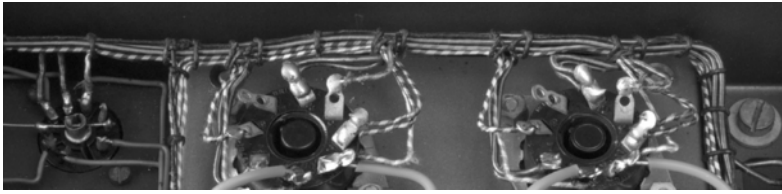

Figure 3.34
1. Position the components in a regimented manner in neat lines and use neatly harnessed wiring to make the complex interconnections. The parallel wires in the harness inevitably increase stray capacitances, but this method was used in the Quad II power amplifier (see Figure 3.34).